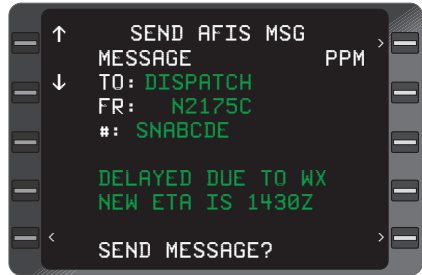

Figure 7-70
13. Message - INSERT text message using the ENTER Key to access each successive line. (Figure 7-70)